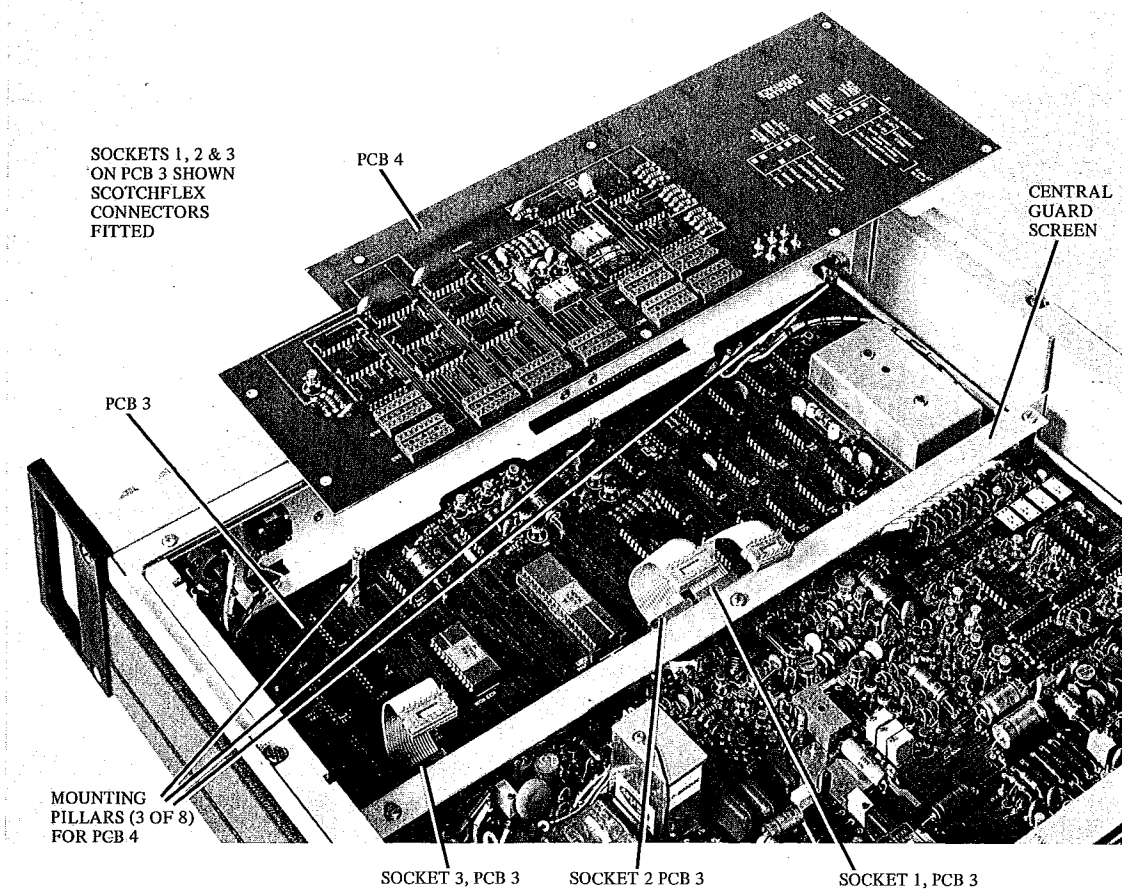

Fig. 2 Fitting PCB 4 to the instrument
3. Remove the central guard screen (Fig. 2).
5. Fit the 3 short Scotchflex connectors to sockets 1, 2 and 3 on pcb 3 (Fig. 2) unless already fitted for pcb 8, such that the cables point toward the front of the instrument.